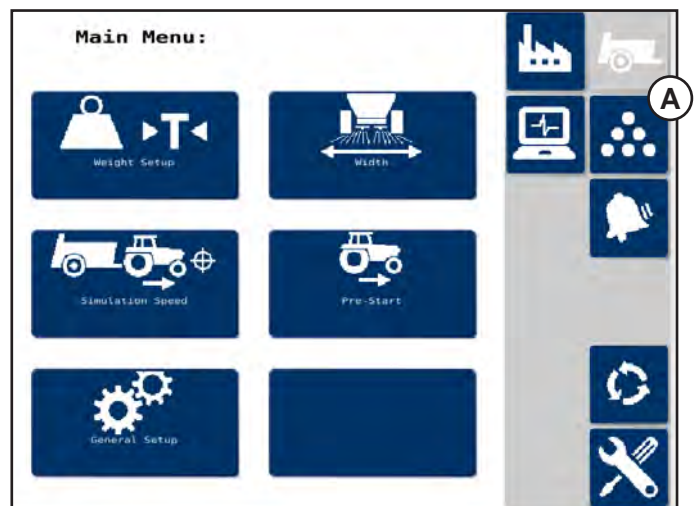

Fig.1
1. From the Settings Main Menu (Fig.1) screen, select Products (A).